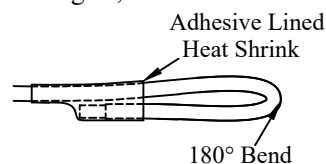

Figure 8: Sealed Wire End
6. **Seal** the remaining white and brown blunt-cut wires as shown (Figure 8).
X Indicates wire is sealed away and not used (Figure 8).